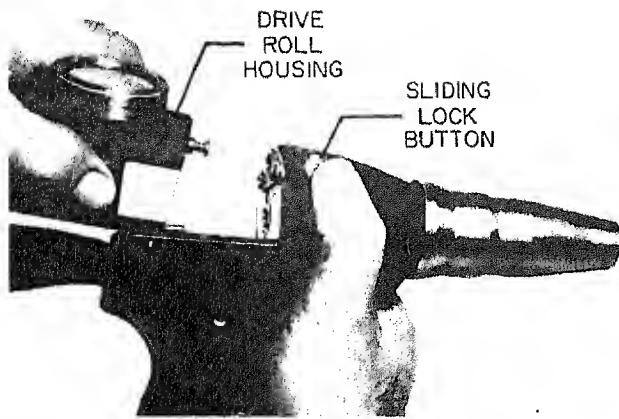

Figure 4. Removing Drive Roll Housing
- a. Press down lock button (Fig. 4) on right side of Gun and slide off drive roll housing.
- a. Press down lock button (Fig. 4) on right side of Gun. Slide off drive roll housing.
a. Press down lock button (Fig. 4) on right side of Gun. Slide off drive roll housing.